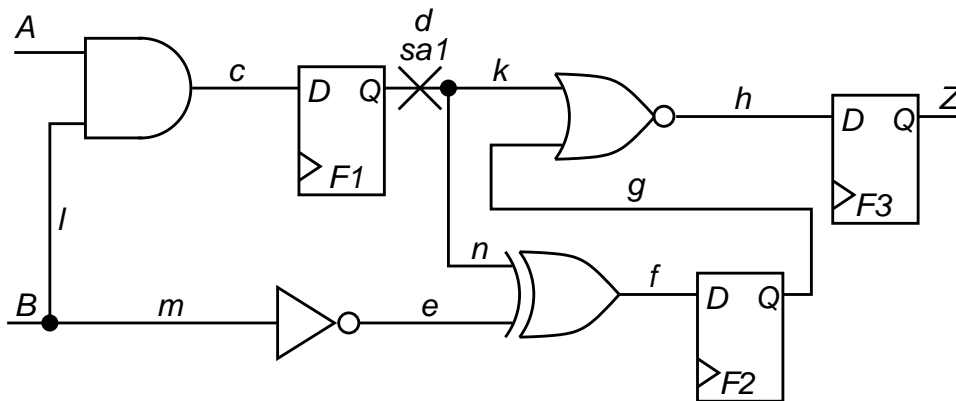

Figure 1: Circuit for Problem 8.21.
8.21 *Pseudo-combinational circuit.* Derive a combinational circuit by replacing all flip-flops with shorting wires in the circuit of Figure 1. This is called the *pseudo-combinational transformation*. Generate a test for the fault d sa1 in the transformed circuit. Verify that the vector sequence obtained by repeatedly applying this vector four times will detect the d sa1 fault in the original sequential circuit. Note that the number of repetitions equals the *sequential depth* + 1.